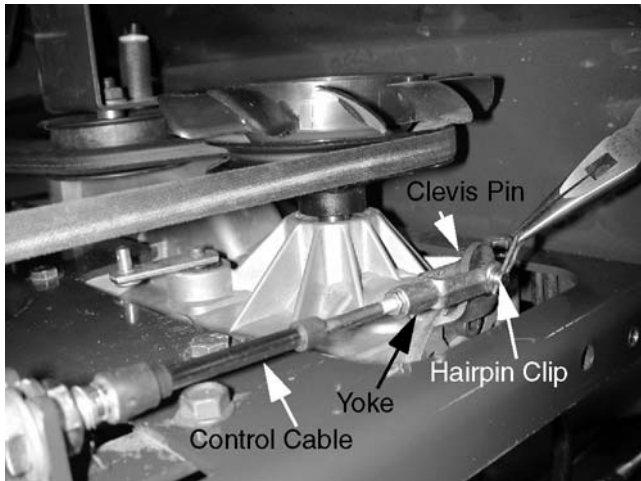

Figure 11-32
11. Adjust the control cables so that the clevis pins can be easily inserted through the yoke and control lever. See Figure 11-32.